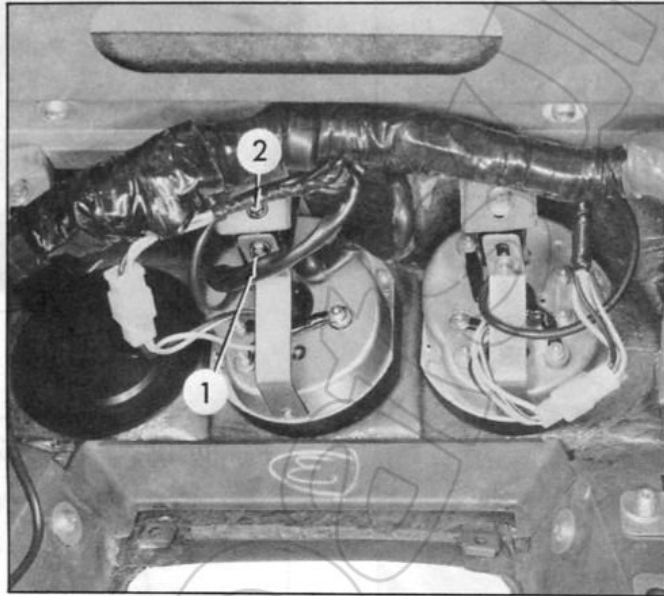

Fig. BE-21 Removing ammeter and fuel gauge
2. Inserting hand into the opening where the center console finisher has been removed, loosen hexagonal cross-headed screws [① and ② in Figure BE-21] use pair of pliers, and remove the unit from the reverse side of the instrument panel.